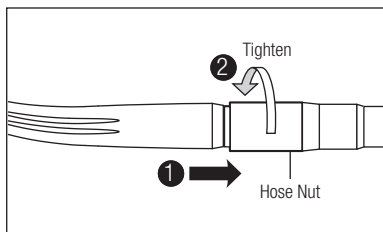

Fig. 2
- 1) Insert the handpiece correctly into the hose connector and tighten the hose nut (Fig. 2).